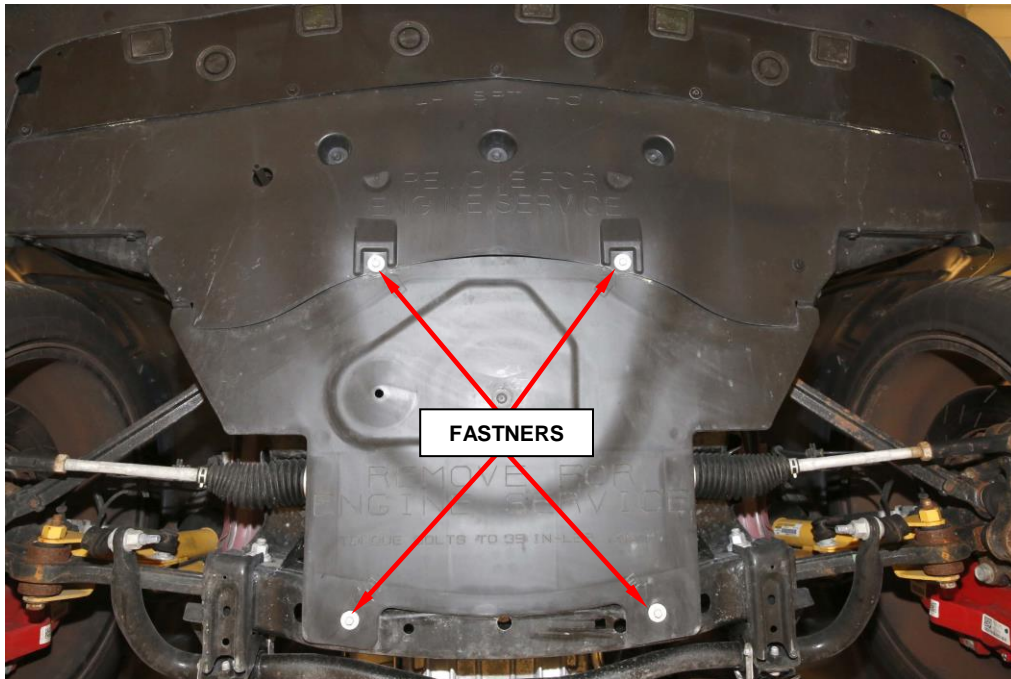

Figure 1 – “LA” Model Rear Belly Pan Cover
2. **LA Model:** Remove the four bolts that attach the rear belly pan (Figure 1).